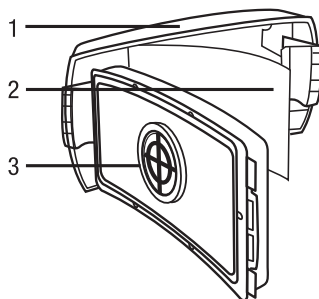

Fig. 6
3. Place the HE filter and the prefilter or spark arrestor (if either is being used) into the filter cover according to Fig 6. Ensure the HE filter label can be seen in the filter cover view window. **NOTE:** The TR-3600 cannot be used in combination with the TR-362. Refer to the TR-300 NIOSH approval label to confirm which product can be used with your system configuration.